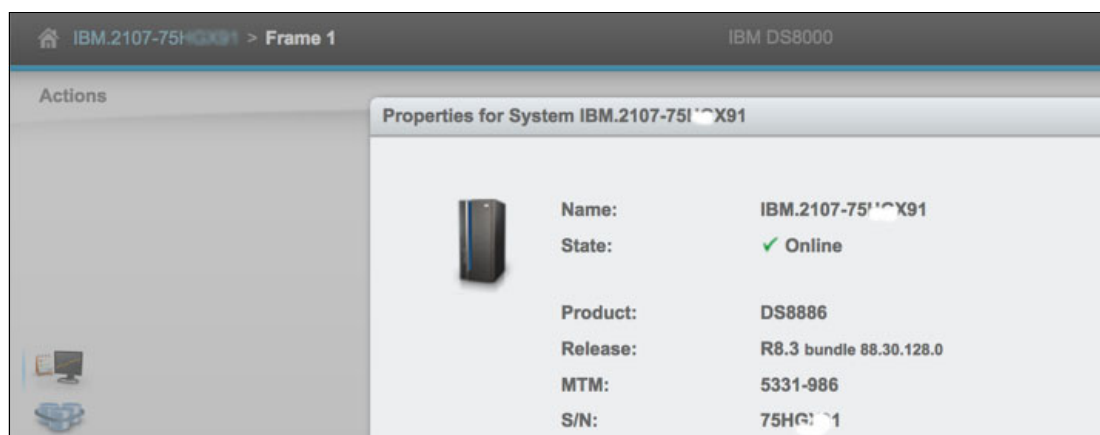

Figure 9-6 Properties window showing the machine signature and MTM
8. To obtain the machine signature and machine type and model (MTM) after the installation, click **Actions** → **Properties**, as shown in Figure 9-6.